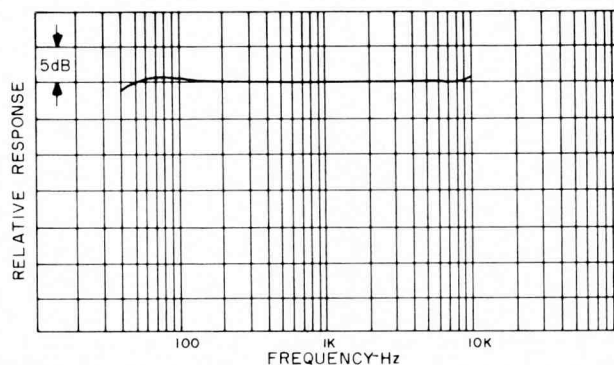
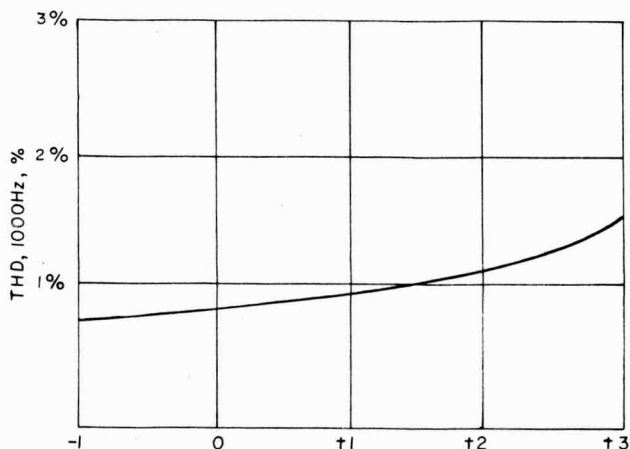

Fig. 4—Playback response with standard test tape.
Fig. 5—Distortion at 1 kHz.
Figure 4 shows the playback response from a standard test tape and the distortion characteristics can be seen from Figs. 5 and 6. Distortion at 0 VU, 1 kHz was less than 1 per cent, increasing below 100 Hz although it fell sharply at -3 VU. Signal-to-noise came out at 51 dB ref. 0 VU increasing to 57 dB with Dolby switched in. If the figures are related to 3 per cent, they would be 55 dB and 61 dB respectively. The Dolby characteristics were checked and showed no significant variation in frequency response—less than 1 dB in fact. Input voltage for 0 VU was 64 millivolts line and 0.22 millivolts for microphone. Output voltage under these conditions checked out at 0.78 volts. Wow and flutter was 0.21 per cent (record-replay) which is excellent for a recorder not using an elaborate servo-controlled system, but the type of motor used is notable for good regulation. Tape rewind time clocked in at 67 seconds for C-60 and tape speed was less than 1 per cent slow.